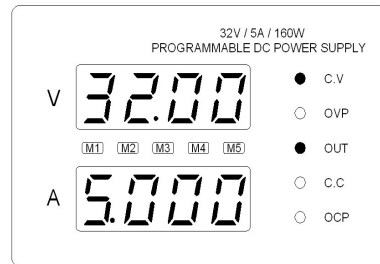

FIG.3 Output status Figure
- (1). Open the power switch, set the voltage, press the VOL voltage adjust selection key, shows the digital voltage regulator tube is selected, the selected digital tube status in the flickering, spinning move ADJUST switch, variable voltage value of the size, again press the VOL voltage adjust selection keys can be selected to change the location of digital tube;
- (2). Current settings, press VUR current adjust selection key, shows the digital tube current regulation is selected, the selected digital tube status in the flickering, spinning move ADJUST switch, set the current value of variable size, once again press the adjust VUR select key, adjust voltage selection button, the selected digital tube location;
- (3). Achieve the voltage and current settings, the time did not press the power button output shutdown, power is turned off, no output, press the OUTPUT key to turn off the output after the status instruction constant (CV), the output status (OUT) of the lantern was lit, power normal work; see FIG.3